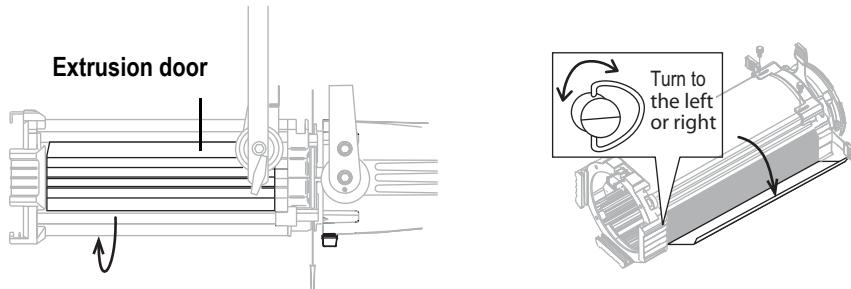

Figure 15
*To clean the 15°-30° Zoom, rotate the lens tube to its limit in one direction (approximately 25°) so the extrusion door will clear the balance yoke. See Figure 15.*